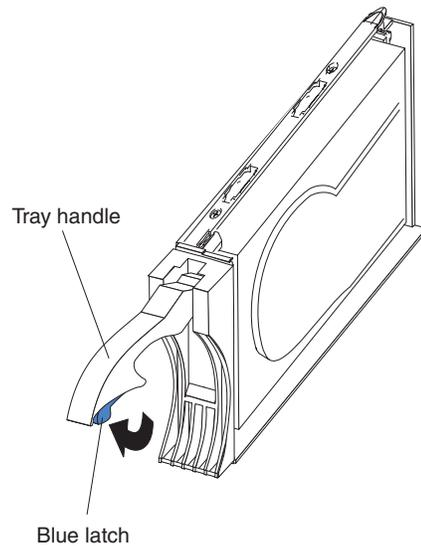

Figure 37. Drive CRU latch
- b. Pull the handle on the tray out so that it is in the open position, as shown in Figure 37.
- a. Press on the inside of the bottom of the tray handle to release the blue latch as shown in Figure 37 on page 41.